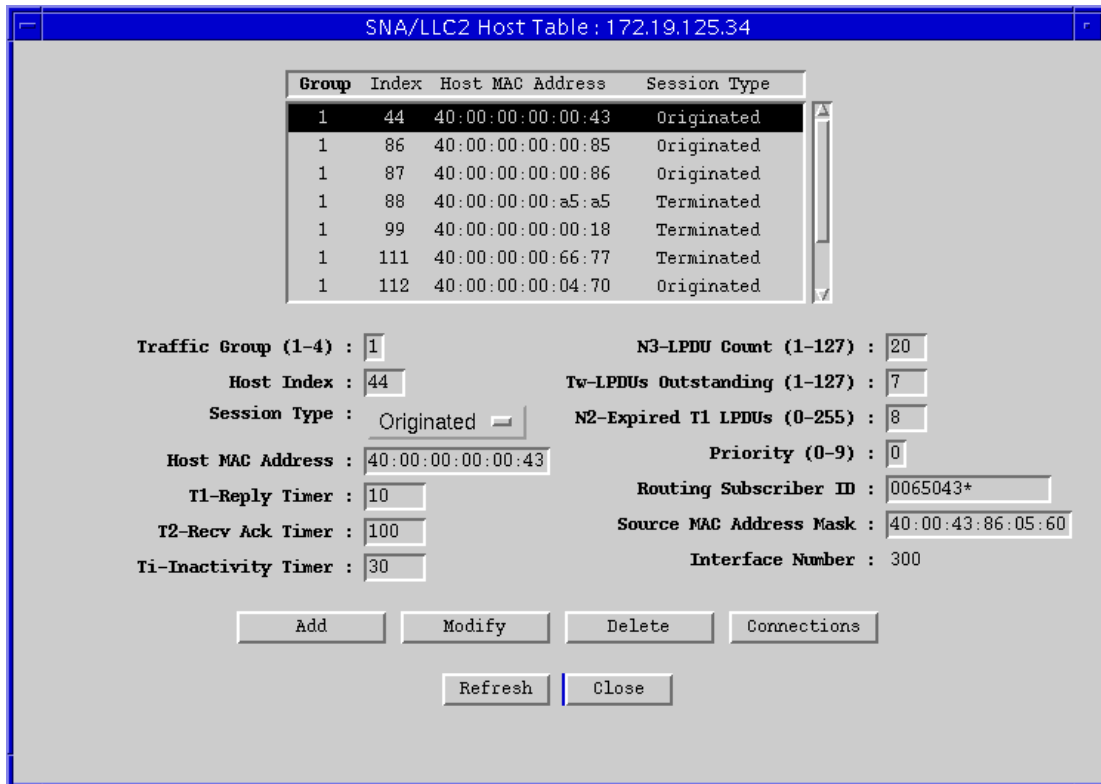

Figure 7-5. The SNA/LLC2 Host Table
2. Drag down to **SNA/LLC2 Hosts Table**, and release. The SNA/LLC2 Host Table, Figure 7-5, will appear.